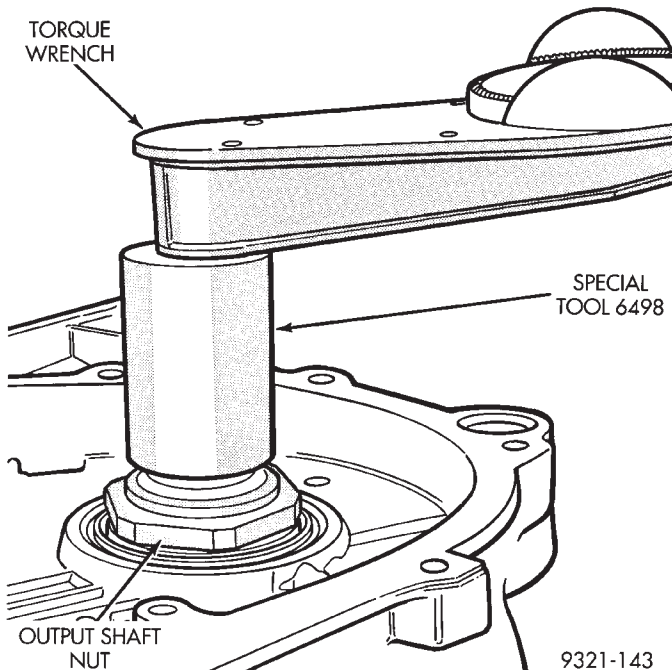

Fig. 151 Checking Turning Torque
(6) Using special tools 6497 and 6498, install new output shaft nut. Do not reuse old output shaft nut. Tighten new output shaft nut to 271 N·m (200 ft. lbs.).
(7) Check the turning torque of the output shaft (Fig. 151). The shaft should have 1 to 8 in. lbs. of turning torque. If the turning torque is **higher than** 8 in. lbs., install a thicker shim. If the turning torque is **less than** 1 in. lb., install a thinner shim. Make sure there is no end play.